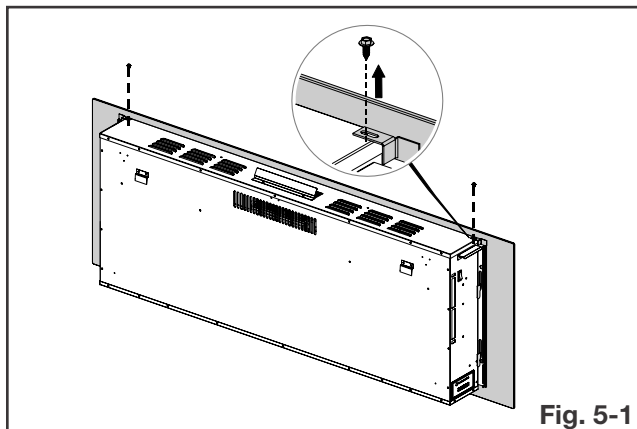

Fig. 5-1
- With one hand on the front surround to prevent it from falling, remove the two screws (1 per side) from the top of the appliance (**Fig. 5-1**). Set the screws aside.